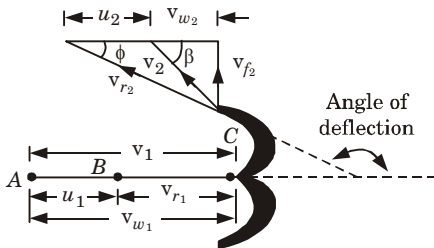

Fig. 4.12.1.
1. Fig. 4.12.1 shows the inlet and outlet velocity triangles.